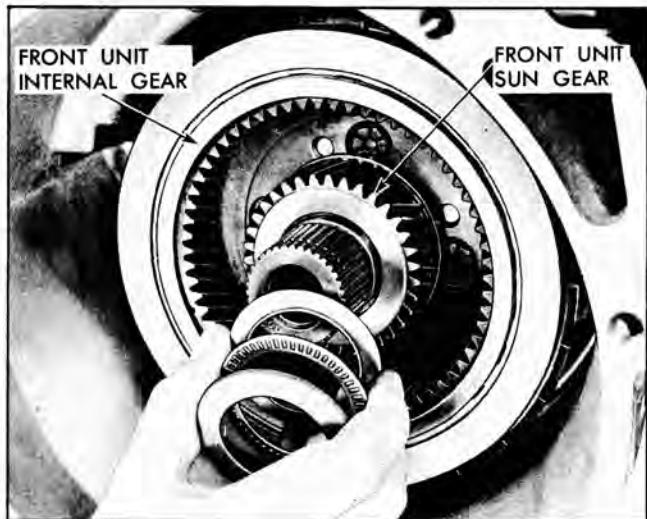

Fig. 121 Installing Thrust Bearing and Races on Front Sun Gear
6. Install front carrier thrust bearing race onto rear carrier shaft—inner flange out (Fig. 121.).